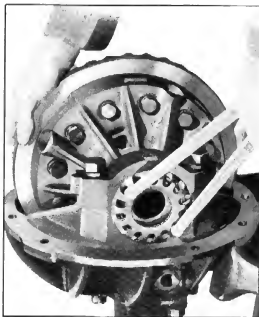

Fig. 29—Adjusting Ring Gear and Pinion Back Lash
5. Check ring gear and pinion back lash. This should be from .005"-.008". If it is more than .008", loosen the right hand adjusting nut one notch and tighten left-hand nut one notch. If less than .005", loosen the left-hand nut one notch and tighten the right-hand nut one notch. Tighten down the cap screws and recheck the ring gear and pinion back lash with a dial gauge as shown in Fig. 29. Assemble and tighten the adjusting nut locks.